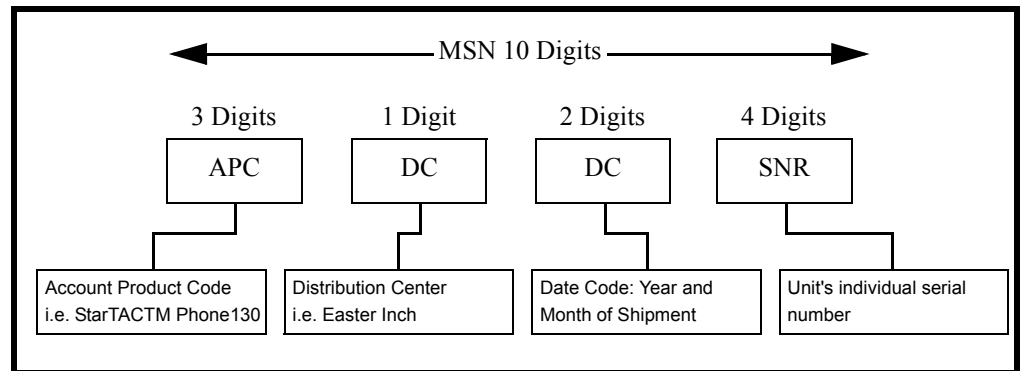

Figure 24. MSN Label Breakdown
- The MSN is divided into 4 sections as shown in Figure 24.